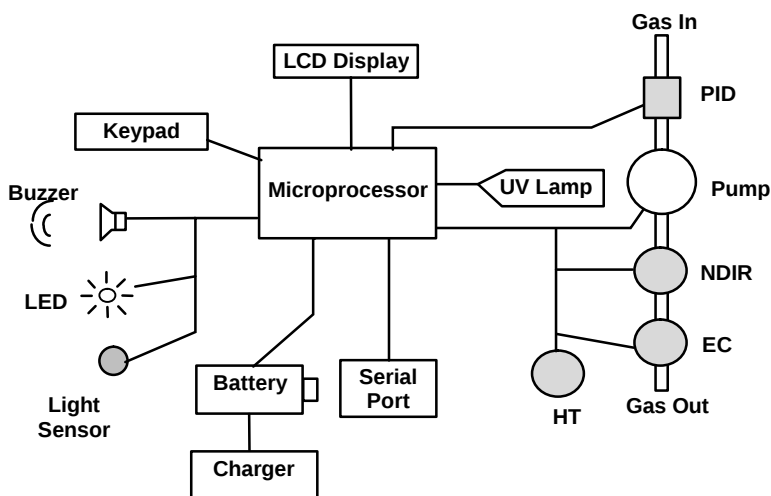

Figure 5-1 Block Diagram of IAQRAE Monitor
The IAQRAE monitor uses one to five different sensors to measure a variety of gases. (See Figure 5-1.) A unique electrodeless discharge UV lamp is used as the high-energy photon source for the PID sensor. The patented PID sensor detects a broad range of organic vapors. A miniaturized non-dispersive infrared (NDIR) sensor measures carbon dioxide levels. An interchangeable electrochemical (EC) sensor measures inorganic toxic gases. Humidity is measured with a polymer-capacitance sensor and temperature with a Thermistor in a combined by a humidity-temperature (HT) sensor.